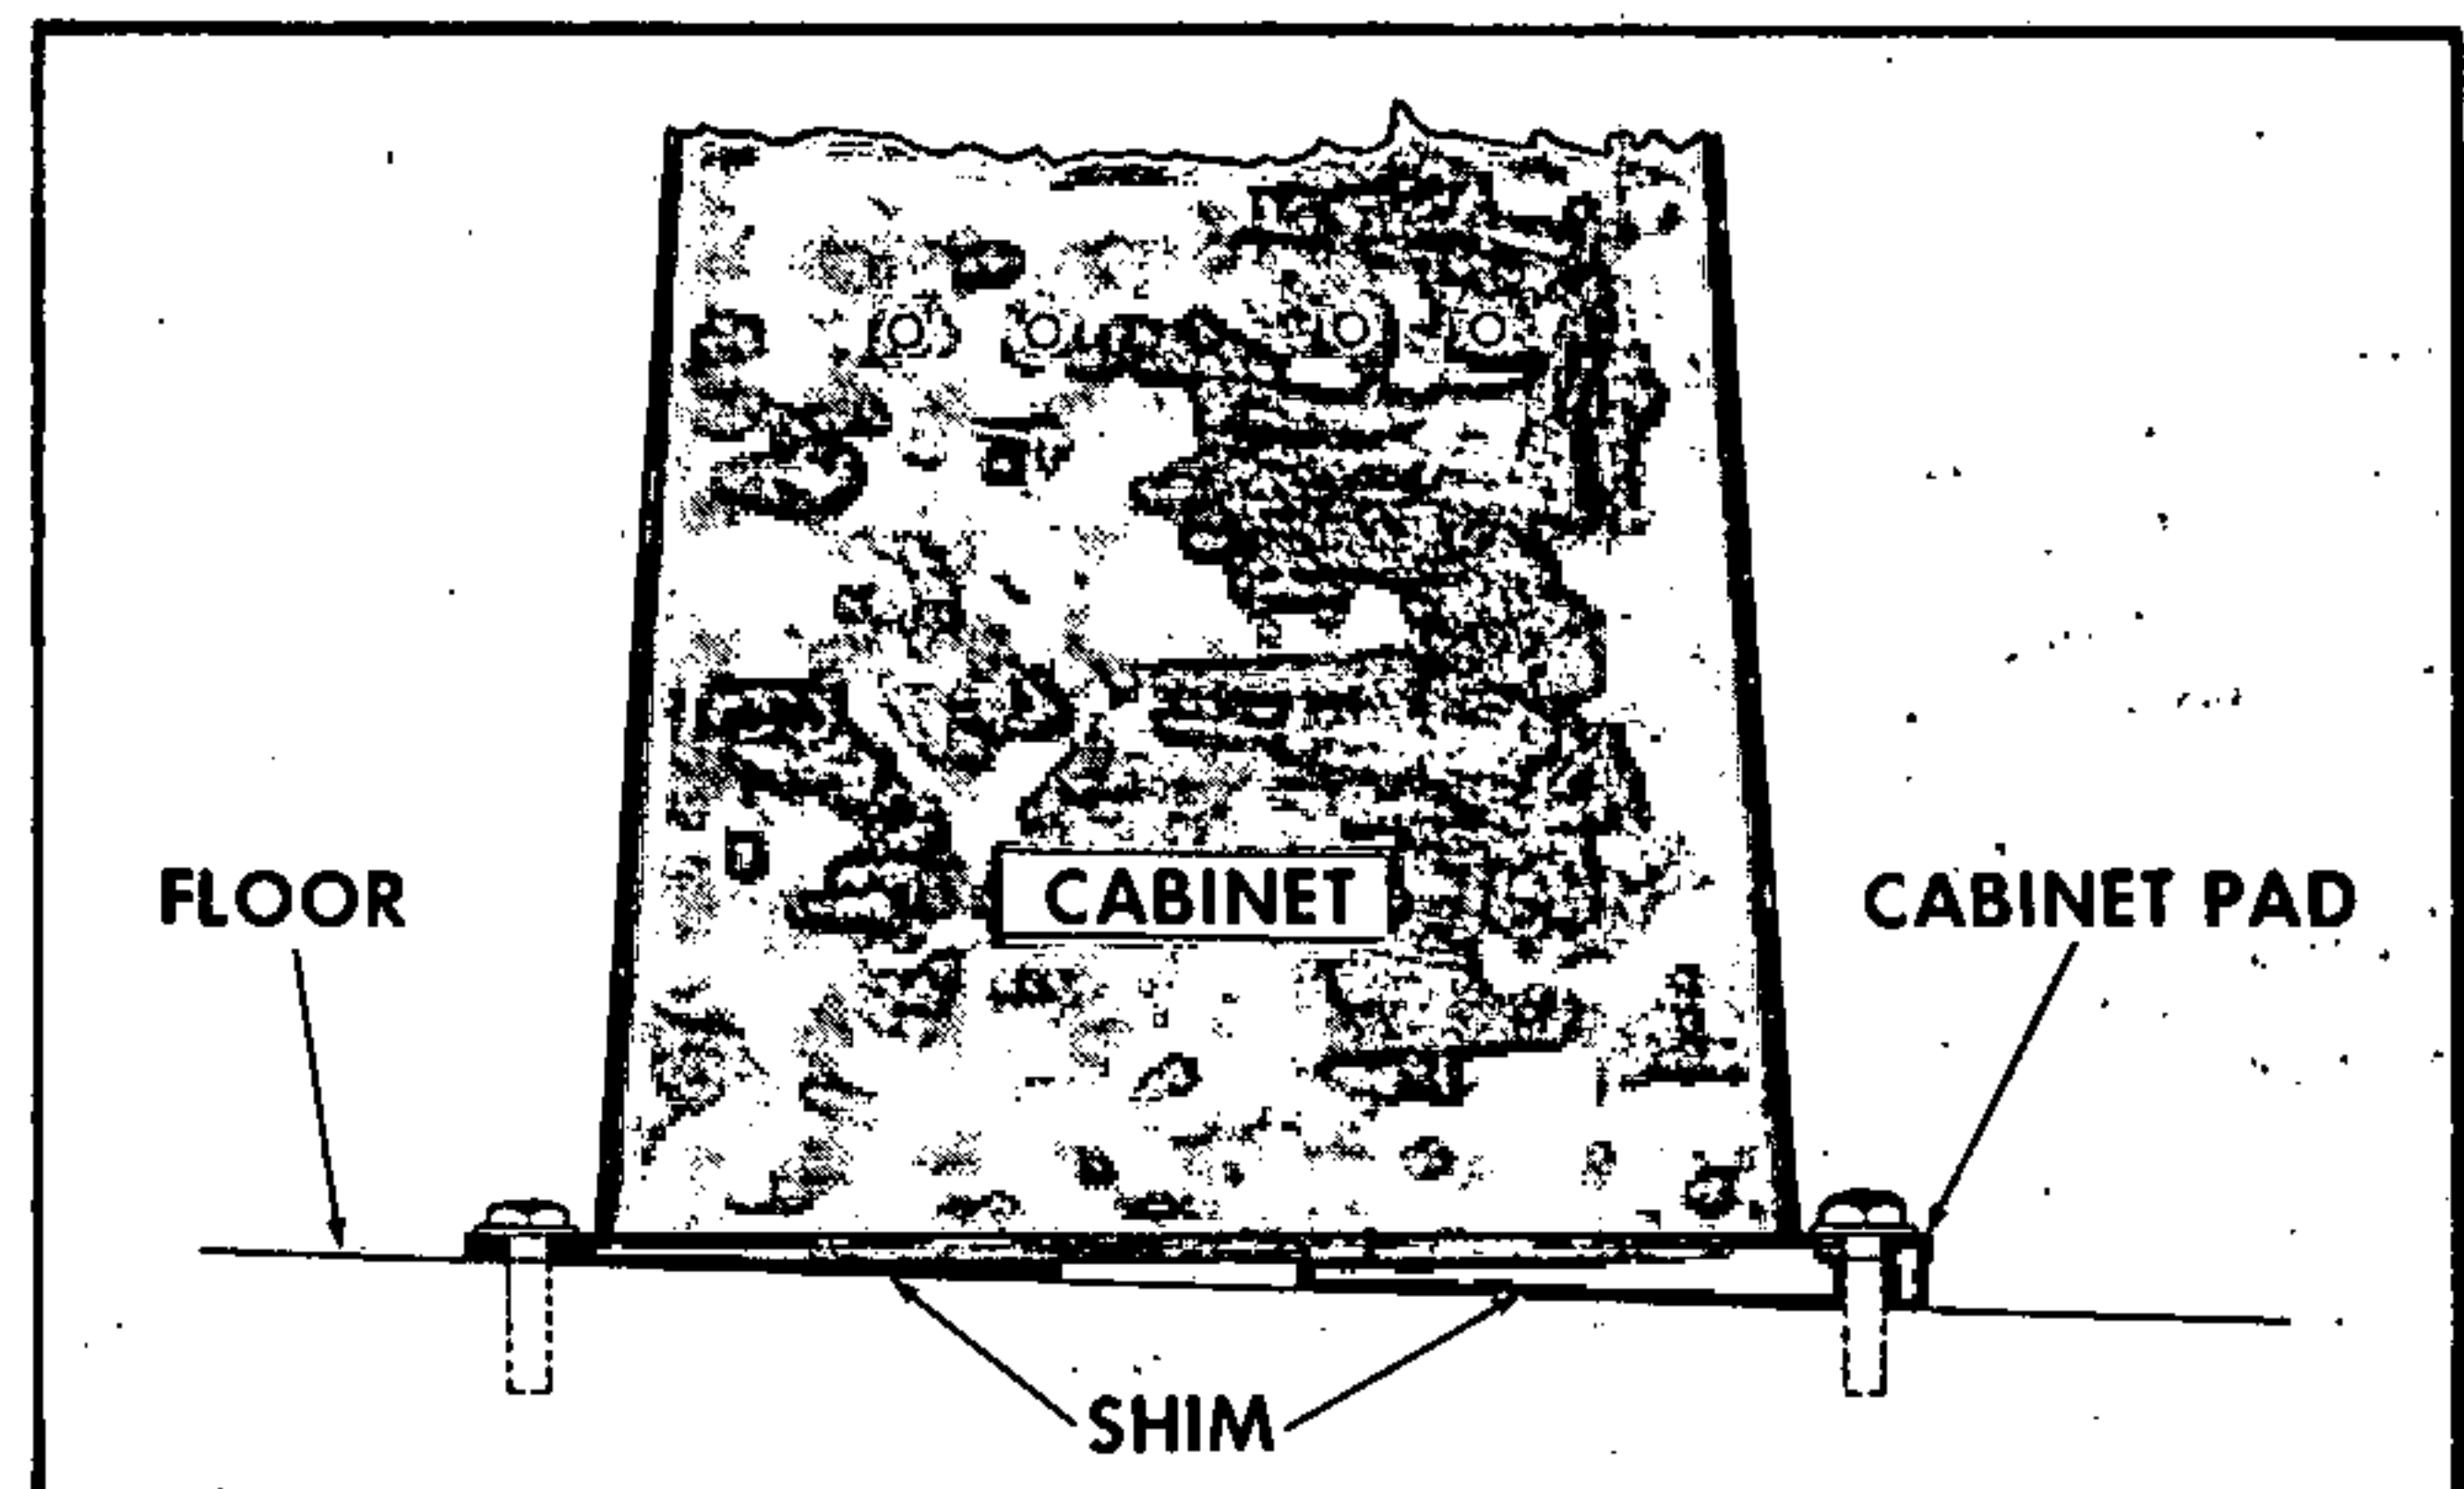

Fig. 2 Use shims made of hardwood or metal to level the cabinet. Shims should bear under at least 75% of the cabinet pads as shown above.
5. *Level the cabinet* — Use a precision machinists level. Place shims as required between cabinet pads and floor, to accurately level the top. Shims should be of hardwood or metal and bear under at least 75% of the cabinet pads as shown under insert Figure 2. Don't use the lathe bed ways to level the cabinet — place level on cabinet.